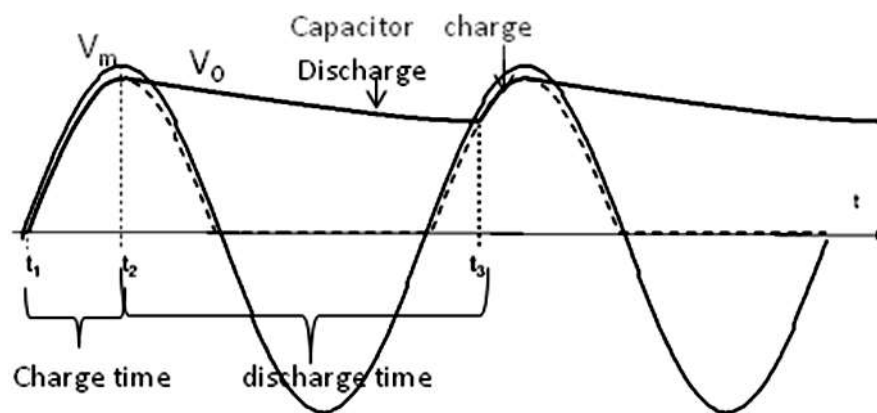

Fig. 1.16 Filtered output voltage wave form of Half Wave Rectifier
- The discharge time of the capacitor C is from t_2 to $t_3 = R_L C$. It is shown in the fig. 1.16.